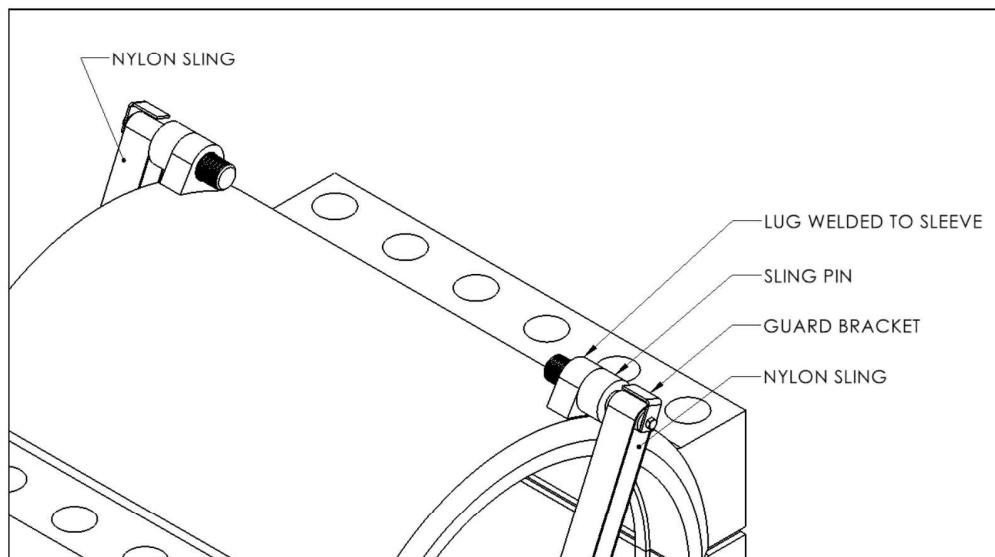

Figure 4
6. Place the nylon slings around the sling pins as shown in Figures 4 & 5 . Install the "L" shaped guard brackets.